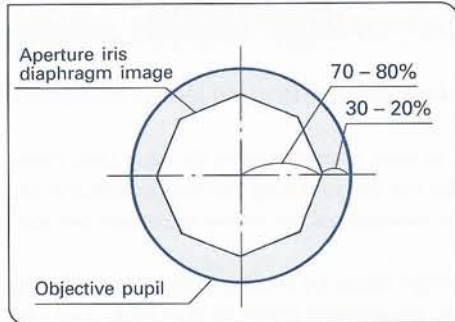
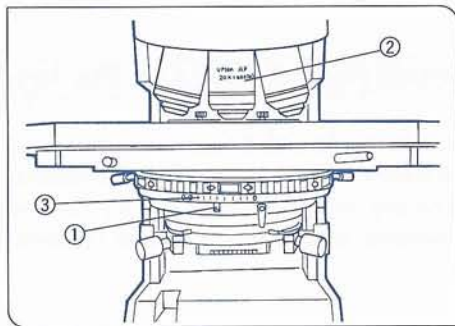

Fig. 44
Fig. 45
- Since the contrast of microscope specimens is ordinarily low, setting the condenser aperture iris diaphragm to 70 - 80% of the N.A. of the objective in use is usually recommended. When necessary, adjust the ratio by removing the eyepiece and looking into the eyepiece sleeve while adjusting the aperture iris diaphragm lever ① until the image shown in Fig. 44 is seen. (Fig. 45)